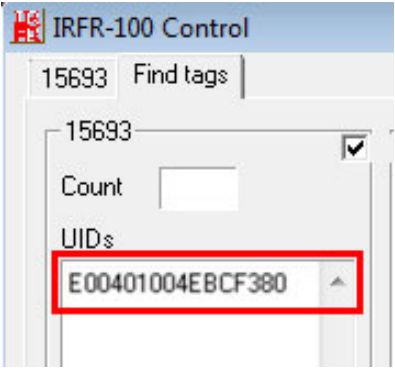

Figure 3-15: IRFR – UIDs
Step 5: Place an RFID card near the RFID reader  on the bottom of the front panel (**Figure 1-2**) then remove it. The card number will be shown in the UIDs column (**Figure 3-15**).